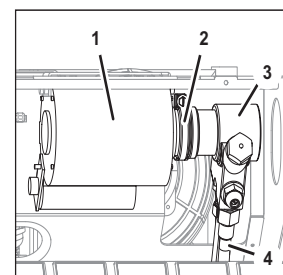

Fig. 47
2. Disconnect the water inlet line (Fig. 47/4) by releasing the coupling from the carbonator pump (Fig. 47/3).
3. Remove the clamp (Fig. 47/2).
4. Disconnect the carbonator pump (Fig. 47/3) from the carbonator pump motor (Fig. 47/1).
5. Lift the carbonator pump (Fig. 47/3) out of the unit.
9. Position the new carbonator pump (Fig. 47/3) on the carbonator pump motor (Fig. 47/1).
10. Attach the carbonator pump (Fig. 47/3) to the carbonator pump motor (Fig. 47/3) with the clamp (Fig. 47/2).
11. Connect the water inlet line (Fig. 47/4) to the carbonator pump (Fig. 47/3) with the assistance of the coupling.